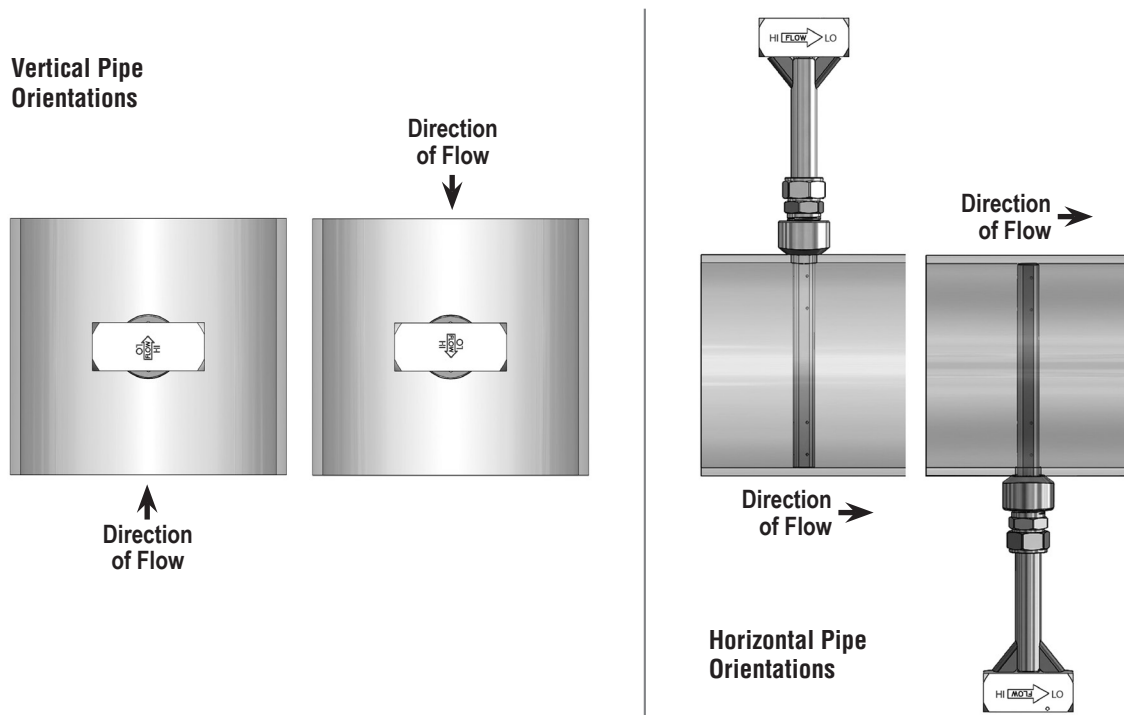

Figure 4. Orientation of Flow Arrow
- Align the head of the sensor so that the arrow labeled "Flow" on the instrument head is in the direction of the flow in the pipe within 3 degrees (Figure 4). Maintain the head in this position for the remainder of the operations.
- Re-verify the alignment of the sensor such that the arrow labeled "Flow" on the head is in the direction of the flow in the pipe to within 3° (Figure 4). A crescent wrench or pipe wrench can be applied to the head of the sensor to make alignment adjustments.